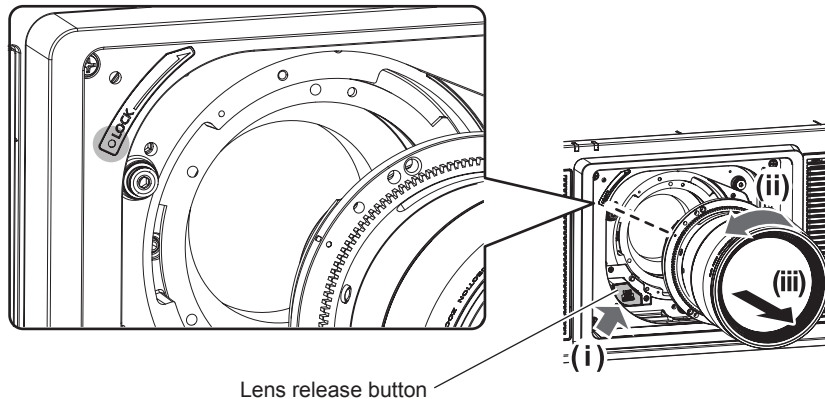

Fig. 1
- 2) Remove the projection lens by turning it counterclockwise while pressing the lens release button. (Fig. 1)